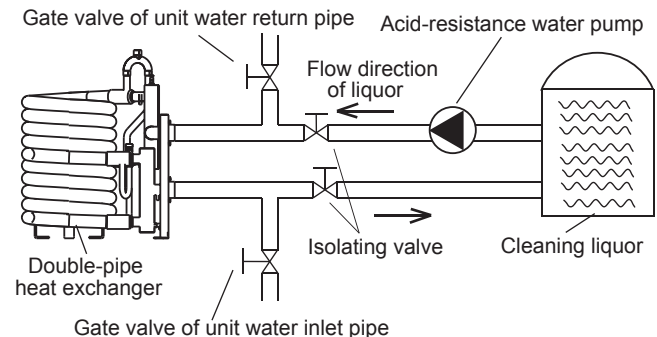

Fig.5-8 Cleaning system schematic diagram of double-pipe heat exchanger
- 2) Correctly connect the cleaning system as the above figure 5-8, make the cleaning liquor counter flush the double-pipe heat exchanger (opposite the general flow direction).